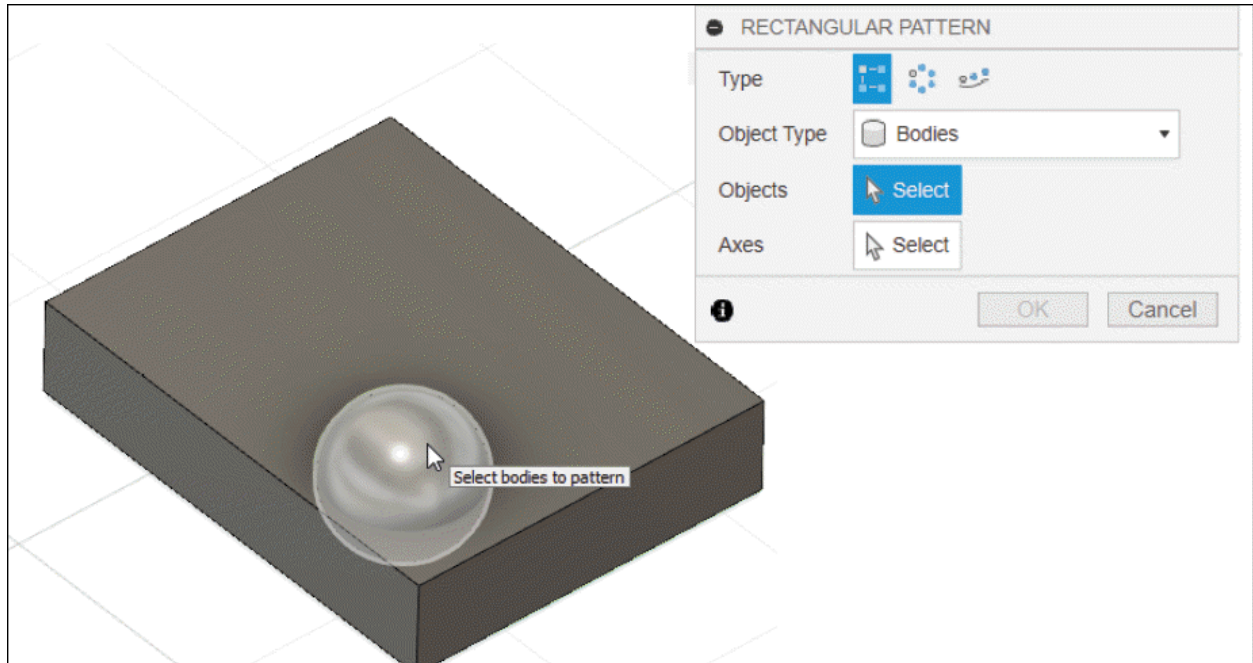

Figure-90. Selection of body for rectangular pattern
- We are using **Bodies** option from **Type** drop-down. Select the body for creating its copies; refer to Figure-90.